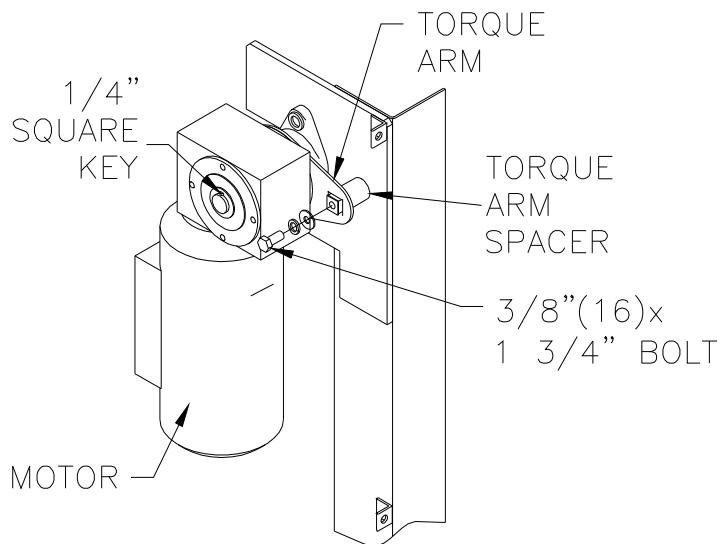

FIG. 8B
- **Tighten Set Screws** on Output Shaft on both sides of Gearbox (Figure 8b).